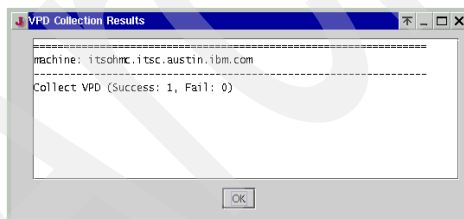

Figure 12-11 Service Agent - VPD Collection Results
3. When it is finished, the information window in Figure 12-11 is displayed.